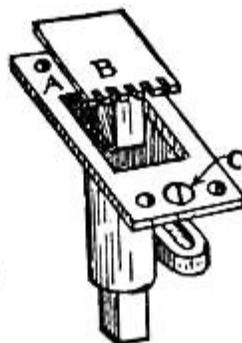

FIG. 6.
**A Bench-stop** of some sort fastened to the top of the bench will be found useful to push work against while planing it, when it is not convenient to use the vise. Figures 6, 7, and 8 show the forms of stops most commonly used by carpenters. Of these the metal stop shown in Fig. 6 is the most satisfactory, as it can be adjusted to different heights. It costs but little and is easily put in place. A mortise is made in the top of the bench to receive the lower portion of the stop, and the plate *A* is set flush with the bench-top and held in place with screws driven into the holes in the corners. The centre of this plate (*B*) is detached from the rest and mounted upon a small post, which can be adjusted to the desired height by giving the screw at *C* a few turns with the screw-driver. The teeth in the edge of *B* help to hold the work in position.